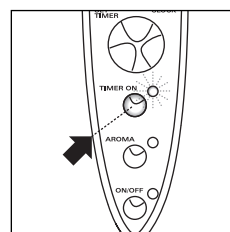

fig. 12
- 2 Press the "Timer On" button. The corresponding light comes on (fig. 12).